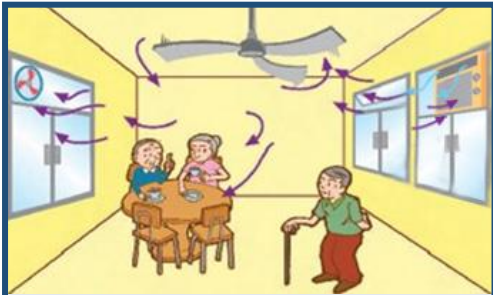
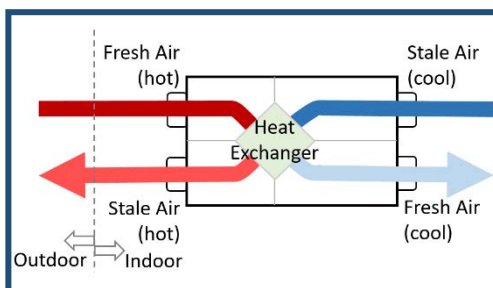

Fig3b. Use of exhaust fan to enhance ventilation when using air conditioner
Fig3c. Schematic diagram of a energy recovery ventilation unit
- Must be complemented by ventilation to provide adequate fresh air. The common ventilation includes: (1) switch on exhaust fans with some opened windows / louvers to pull outside air into the premises (Fig 3b) and/or (2) switch on the energy recovery ventilation unit to provide adequate fresh air with energy saving feature (Fig 3c);